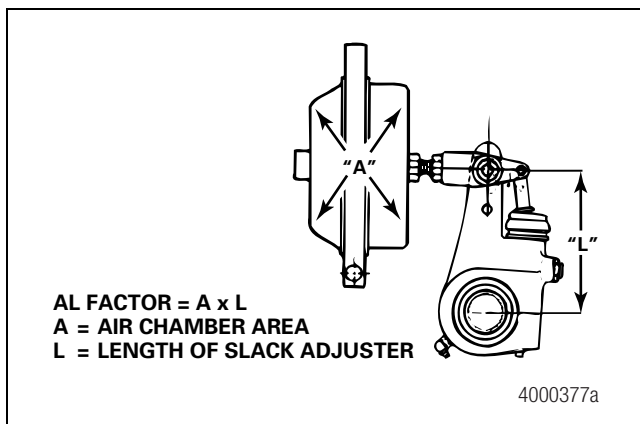

Figure 7.9
- The air chamber area multiplied by the length of the automatic slack adjuster is called the AL factor. This number must be equal for both ends of a single axle and all four ends of a tandem axle. Figure 7.9.